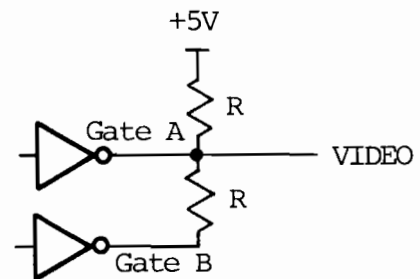

Figure 3-4 Simplified Video Circuit
**3.4.5 VIDEO AND COMPOSITE VIDEO FOR TV MONITOR (REGIONS EE 4, 5 AND 6):** The video or picture information for the TV monitor is present at the pin-12 output of gate K8. Signal construction is for three intensity levels: black, medium white and white. (The white level appears intensely white whether written on a black or on a medium white background.) The open collector outputs of two gates (K8 pin 12 and K8 pin 2) provide this video capability. The operation of these two gates is similar to that of the simplified circuit shown in Figure 3-4. Here VIDEO will be at black level if gate A is down (zero volts), and will be at medium white level if gate B is down (+2.5 volts). VIDEO will be at white level if gates A and B are both up (+5 volts).